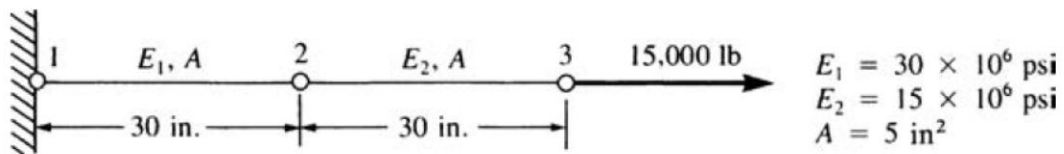

Figure.1
2. a) Evaluate the displacements and reactions at the supports for the loaded structure given in figure.1. [10]